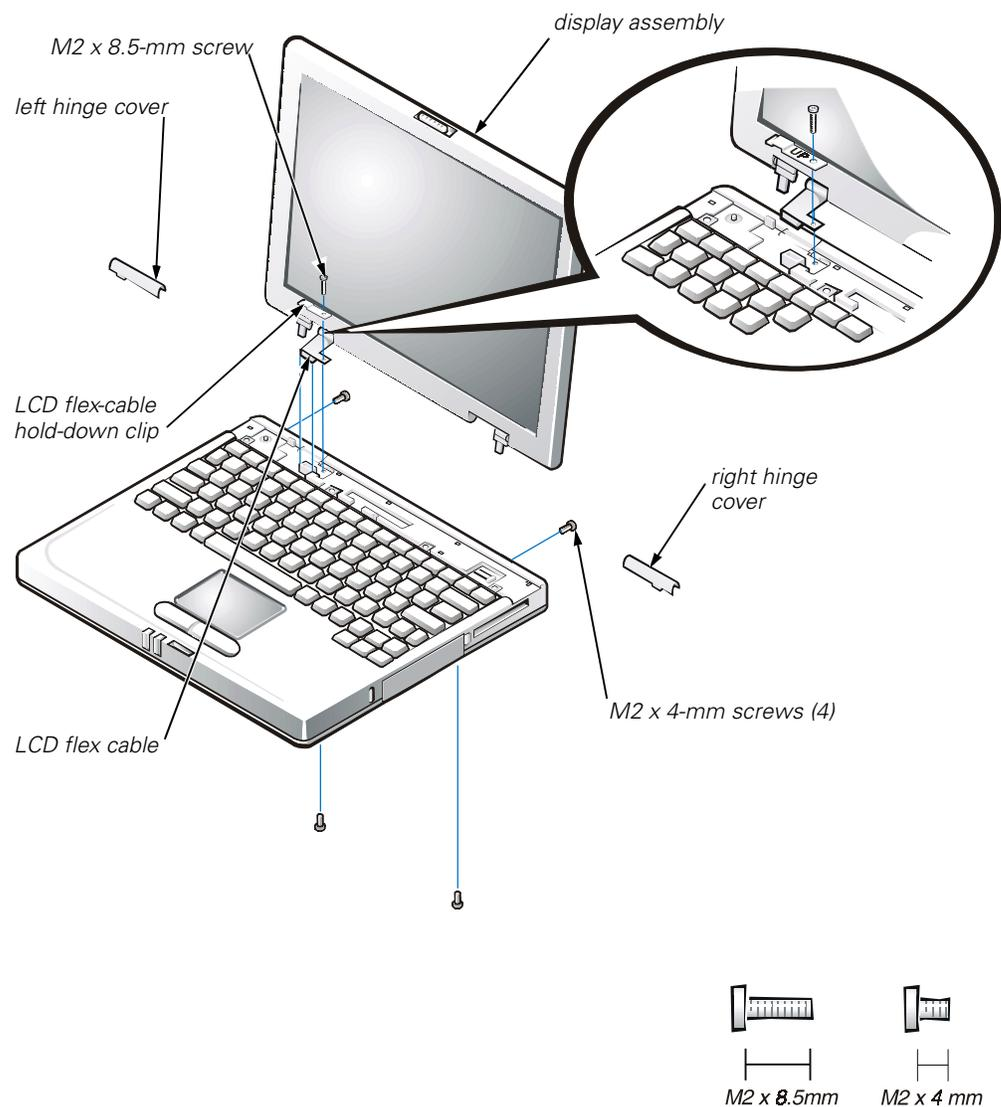

Figure 8. Display Assembly Removal
3. Remove the two M2 x 4-mm screws at the back of the computer that secure the display assembly to the bottom case (see Figure 8).
5. Remove the two M2 x 4-mm screws at the bottom of the computer that secure the display assembly to the bottom case (see Figure 8).
9. Remove the M2 x 8.5-mm screw that secures the LCD flex-cable hold-down clip and the LCD flex-cable connector to the system board assembly (see Figure 8).
The word *up* is stamped on the top of the clip (see Figure 8).